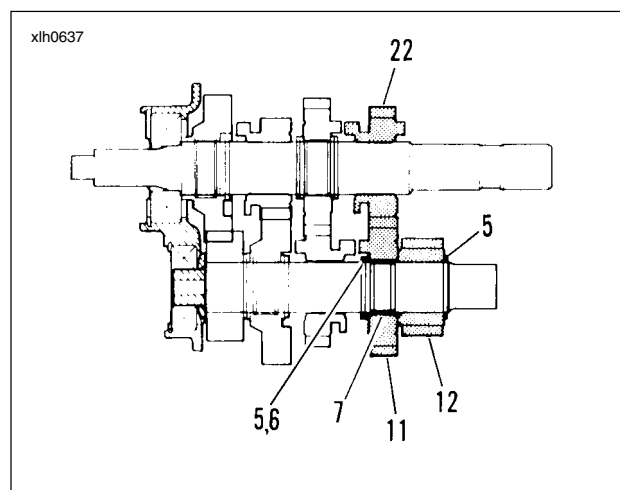

Figure 6-45.
14. See Figure 6-45. Install retaining ring (5) and thrust washer (6) on countershaft. Install split bearing (7) into seat next to thrust washer (6).
15. Install countershaft 2nd gear (11) over bearing (7).
16. Install mainshaft 2nd gear (22) onto shaft. The shifter fork groove must face the access door.
17. Install shouldered countershaft 5th gear (12). The single radial groove must face away from the access door.
18. Expand retaining ring (5) and slide into groove next to countershaft 5th gear (12).